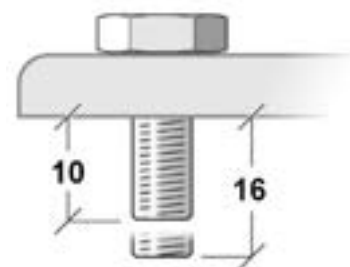

Figure 3. Min./max. bolt protrusion into fixture base (millimeters)
1. Obtain two suitable half-coupler type rigging clamps. See Figure 3. Pass an M10 grade 8.8 steel bolt through each rigging clamp and check that the bolts will protrude minimum 10 mm / 0.4 in. and maximum 16 mm / 0.63 in. into the base of the fixture when tightened.